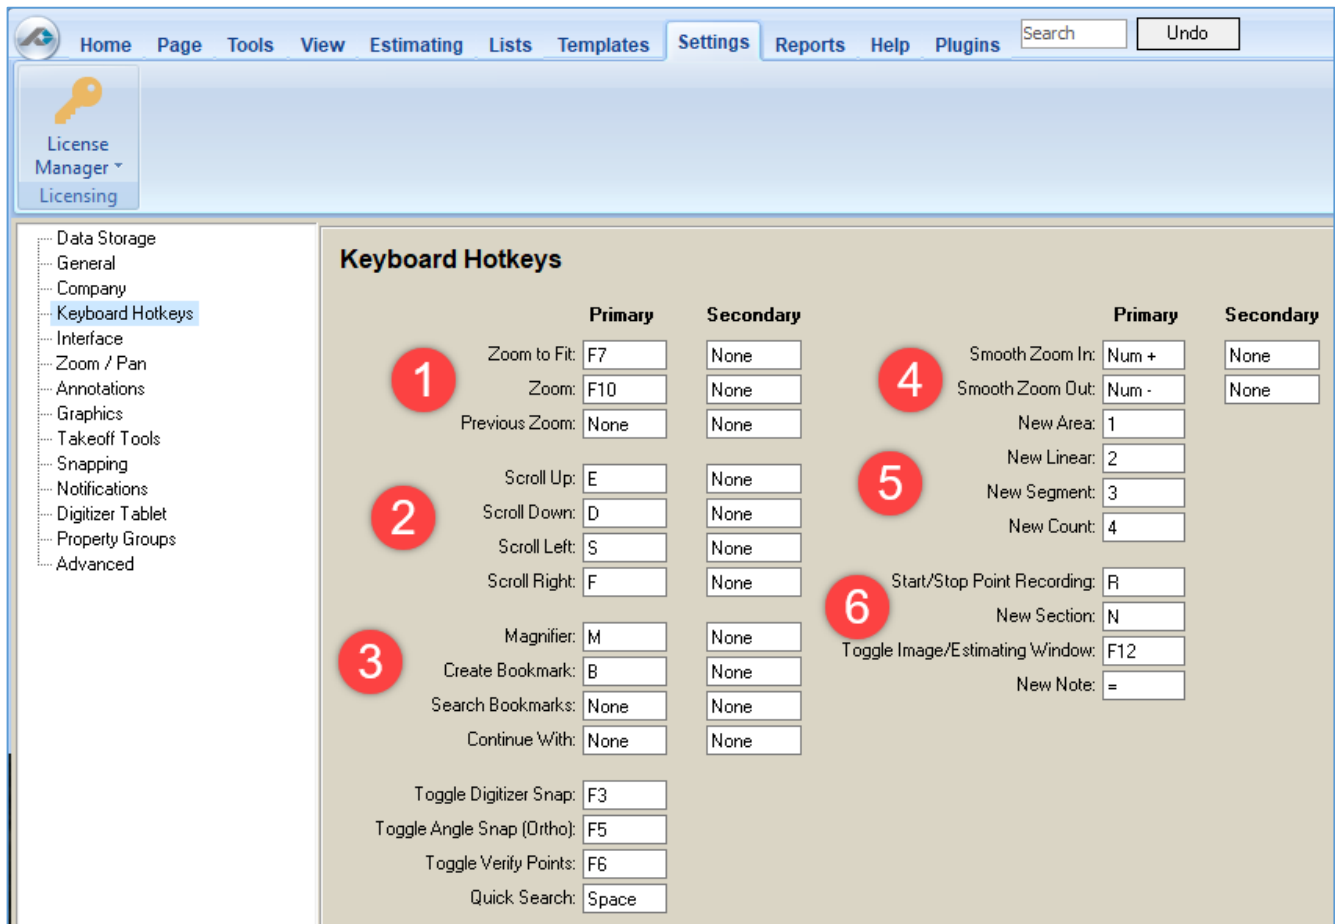

Figure 38-A
1. The **Zoom to Fit** and **Zoom** hotkeys can be changed here (Fig. 38-A).